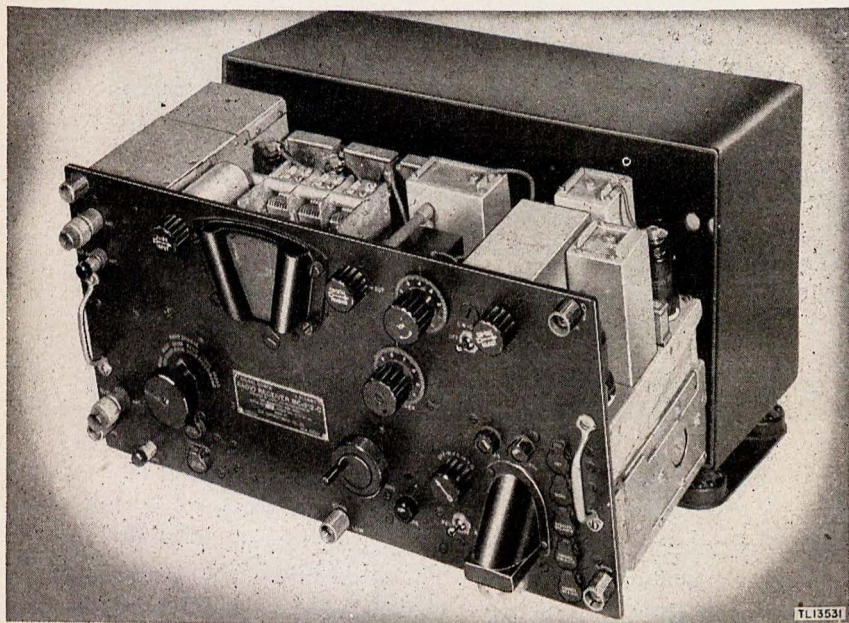

Figure 6. Radio Receiver BC-312-().
a. RADIO RECEIVER BC-312-() (fig. 6). For a complete description of Radio Receiver BC-312-(), refer to TM 11-850.